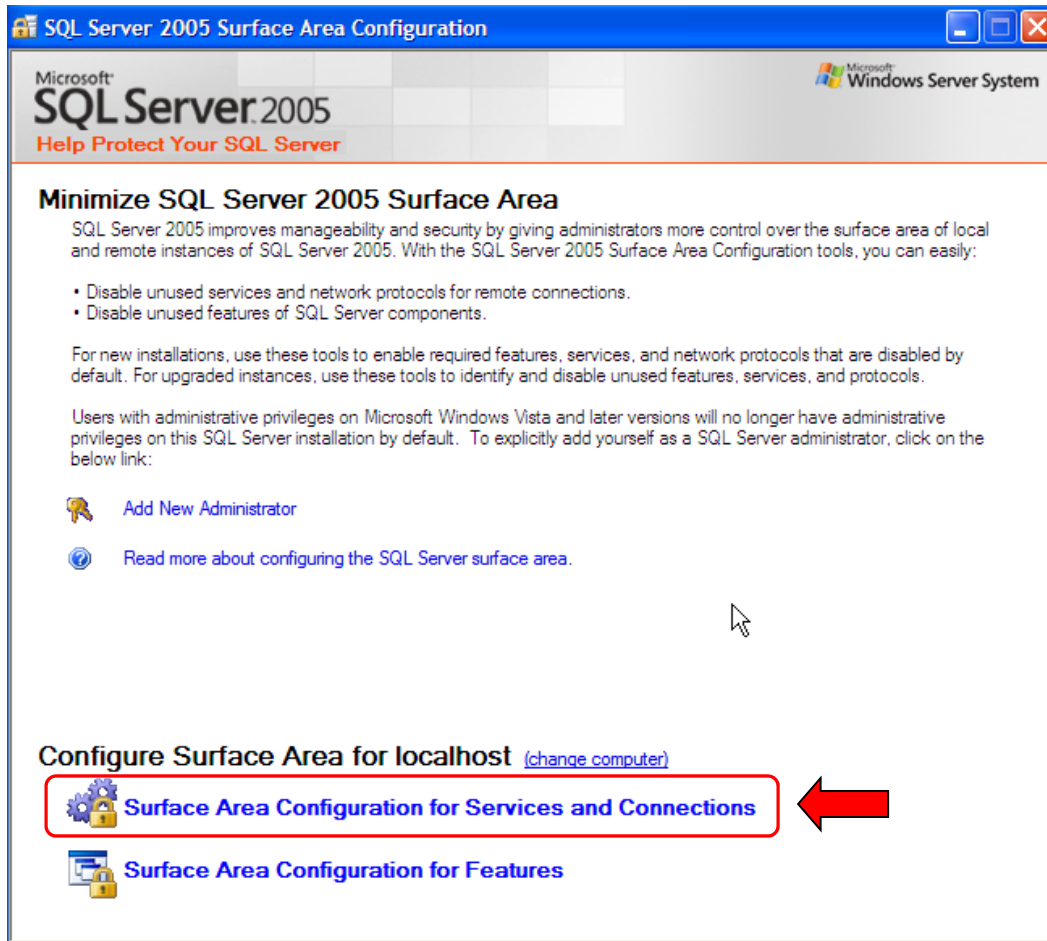

Figure III-6. SQL Server 2005 Surface Area Configuration Window
The SQL Server 2005 Surface Area Configuration window opens (Figure III-6).
6. Click on **Surface Area Configuration for Services and Connection** link as shown in Figure III-6.